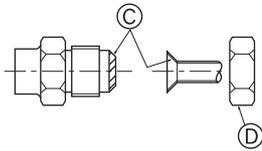

Fig. 4-5
(A) (Fig. 4-5)
(B) (Fig. 4-5)
4.4. Connecting pipes (Fig. 4-5)